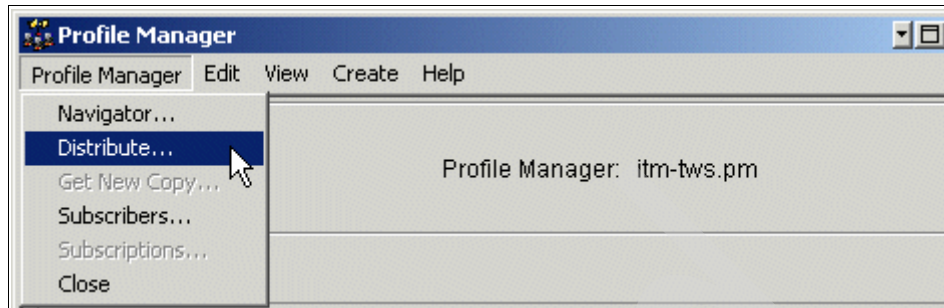

Figure 9-143 Starting distribution of selected profile to selected subscriber
10. Select **Profile Manager** → **Distribute...** as shown in Figure 9-143 on page 539.